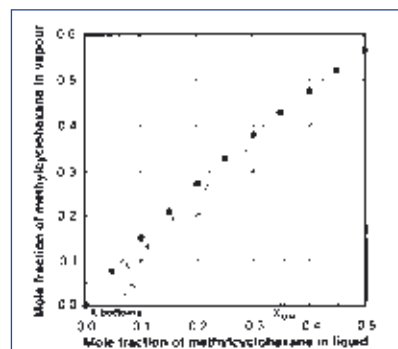

Fig. 3: McCabe-Thiele construction for batch distillation at total reflux (methylcyclohexane-toluene mixture, atmospheric pressure, boiler power 1.0kW)
- McCabe-Thiele construction of operating line (Fig. 3)